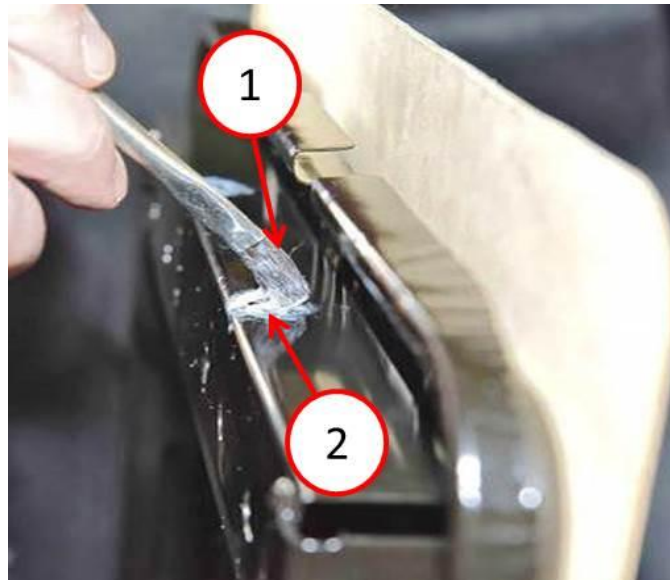

Fig. 1 Brushing Grease
5. Using a small brush (1) or equivalent, apply NYE 880 grease (2) to both of the headrest mechanism and seat back panel cross member square holes (Fig. 1).